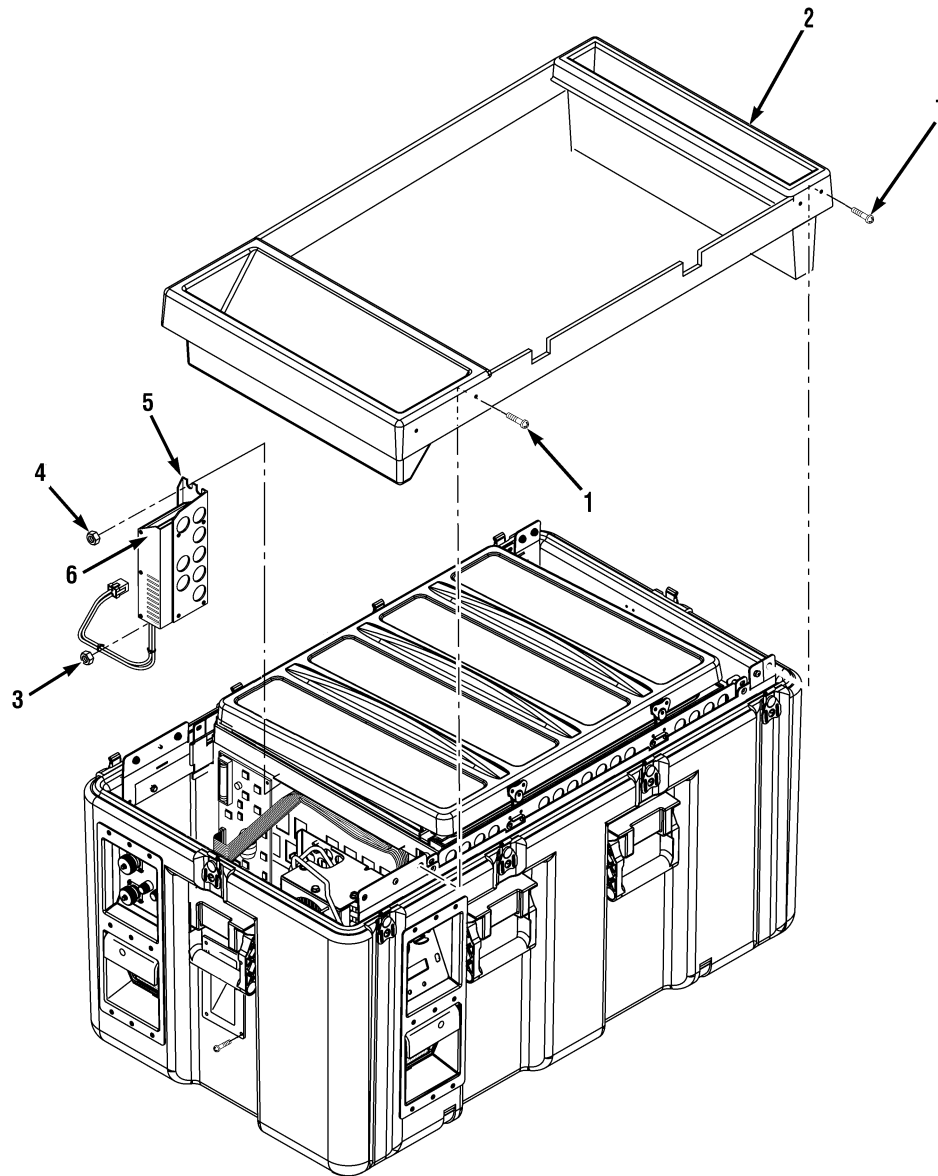
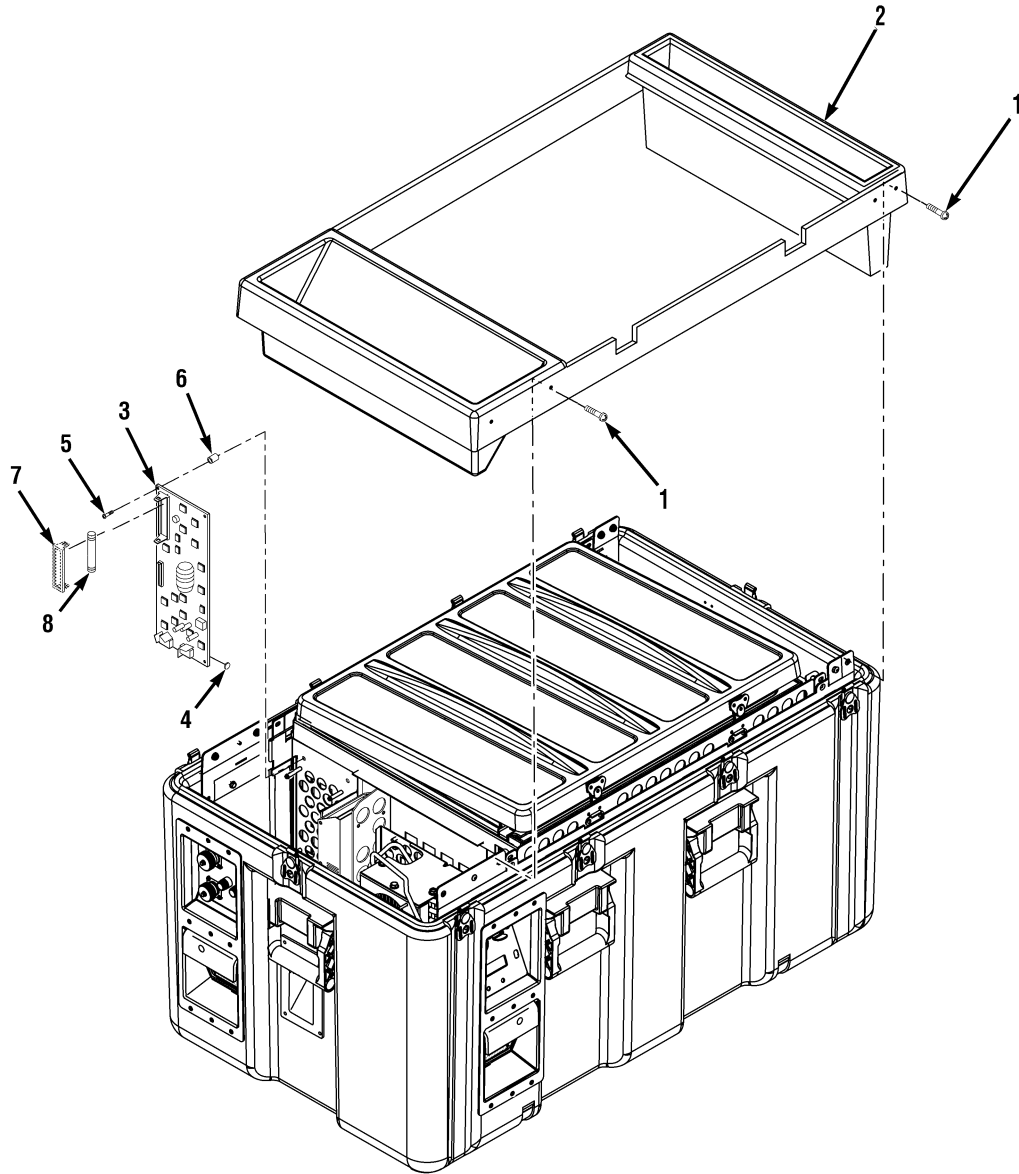

Figure 2-8. Replacement of Power Supply
Figure 2-9. Replacement of Control Motherboard
- (1) Disconnect all external power sources and prepare the unit for maintenance (Para 2-1).
- (2) Remove eight screws (1, Figure 2-8) and cover panel (2).
- (4) Disconnect the 5-pin wire harness from the power panel.
- (5) Cut the two nylon wire ties that secure the power supply wiring to the power supply (6, Figure 2-8)
- (2) Remove eight screws (1, Figure 2-9) and cover panel (2).
- (4) Remove the ribbon cable from the control motherboard (3, Figure 2-9) by releasing the end levers and pulling the ribbon cable straight out.
- (5) Disconnect the four wire harness connectors from the control motherboard (3).
- (6) Remove the bottom left 3/8-in. nut (3, Figure 2-8) that holds the control motherboard ground wire (4, Figure 2-9).
- (7) Remove the control motherboard ground wire (4) from the bolt attached to the chassis.
- (3) Connect the ribbon cable to the control motherboard (3) by inserting the cable and latching the end levers inward.
- (4) Install the control motherboard ground wire (4) to the bottom left power supply bracket chassis bolt (3, Figure 2-8).
- (6) Install the cover panel (2, Figure 2-9) with eight screws (1).
- (4) Remove the retaining clip (7, Figure 2-9) from the battery receptacle by expanding the end tabs and pulling outward.
- (5) Remove the 3.6 volt lithium battery (8) from the control motherboard (3).
- (4) Install the cover panel (2, Figure 2-9) with eight screws (1).